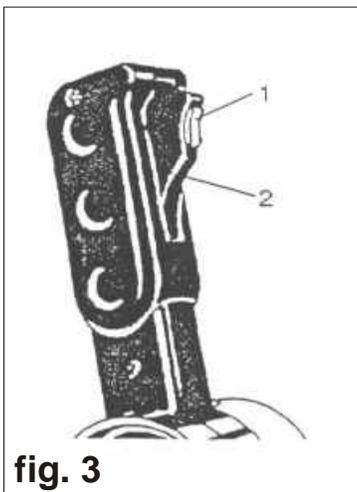

fig. 3
- Release the safety switch (1) by keeping your right hand on the grip (fig. 3) and at the same time, press the trigger (2), operate the blade for a few turns, which is useful to determine the right direction of rotation marked by the arrow, on the electric motor cap.